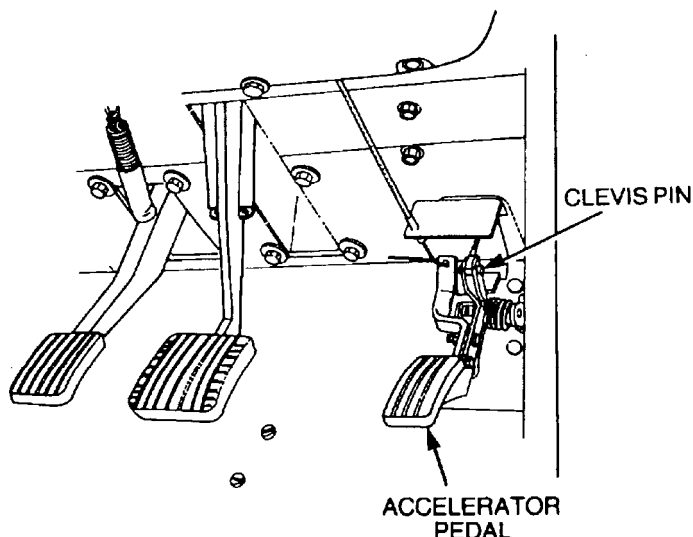

Figure 39 Accelerator Cable Removal
- a. Disconnect the cable from the pedal by removing the split pin and clevis pin (Figure 39).